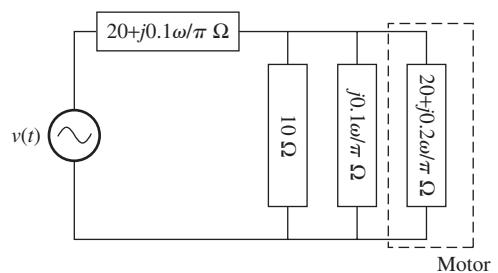

FIGURE P6.43 Circuit for Problem 6.43.
6.43 (H)* The electric fan circuit shown in Figure P6.43 is connected to US standard AC power (assume no phase angle). What is the cost of electric utility if the fan rotates at a constant speed for 12 h? Assume that the cost of electricity is 23 cents per kilowatt hour. (Hint: Assume the average power is $P_{av} = V_{rms} I_{rms}$.)